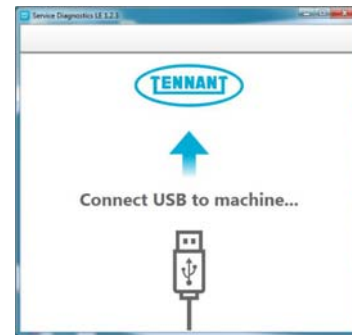

Fig. 3
2. After start up, the following screen will appear (Figure 3).